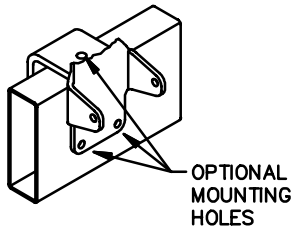

Figure 8
11. Turn 1/2-13 x 3-1/2 bolt until it contacts the frame. Then tighten 1/2 — turn with wrench. **DO NOT OVERTIGHTEN.** **NOTE:** Optional mounting holes are provided for trailers that do not permit use of 1/2 - 13 bolt [See figure 8]. **CONSULT TRAILER FRAME MANUFACTURER FOR APPROVAL PRIOR TO DRILLING HOLES.** 3/8" hardware is recommended whether it is self-tapping or nut and bolt.